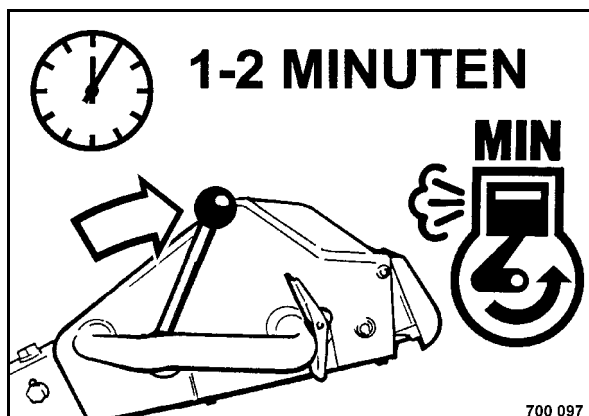

Fig. 36
- Shift the throttle lever to position "MIN" (Fig. 36) and let the engine run with idle speed for a short while.